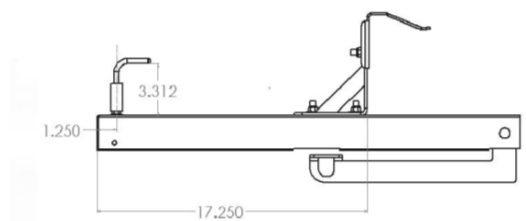

Figure 3
2. Channel Support Assembly Located in the Parts Box, find Security Hold Down, two 5/16" Washers, 5/16" Lock Nut, 5/16" External Tooth Washer and a 5/16" Jam Nut (Only one in the 02A074 Hardware Bag). Place the Security Hold Down in the small slot in the rear channel with the bent rod facing inboard. To adjust height - move the Jam Nut up and down. After adjustments (See dimensions in Figure 3). Torque fasteners to 20 Nm. Cut wire that is holding pivot cam of the hydraulic assist. Locate two Stop Pad Assemblies, two 3/8-16x 1.00" Carriage Bolts, two 5/16" Washers and two 3/8-16" Lock Nuts. Install the Stop Pad Assemblies on the Channel Supports and torque the fasteners to 24 Nm (See Figure 3). The distance between the Stop Pads and the Stop Brackets will be determined by the width of your particular ladder rails. **NOTE: See drawing for location of Stop Pad.**